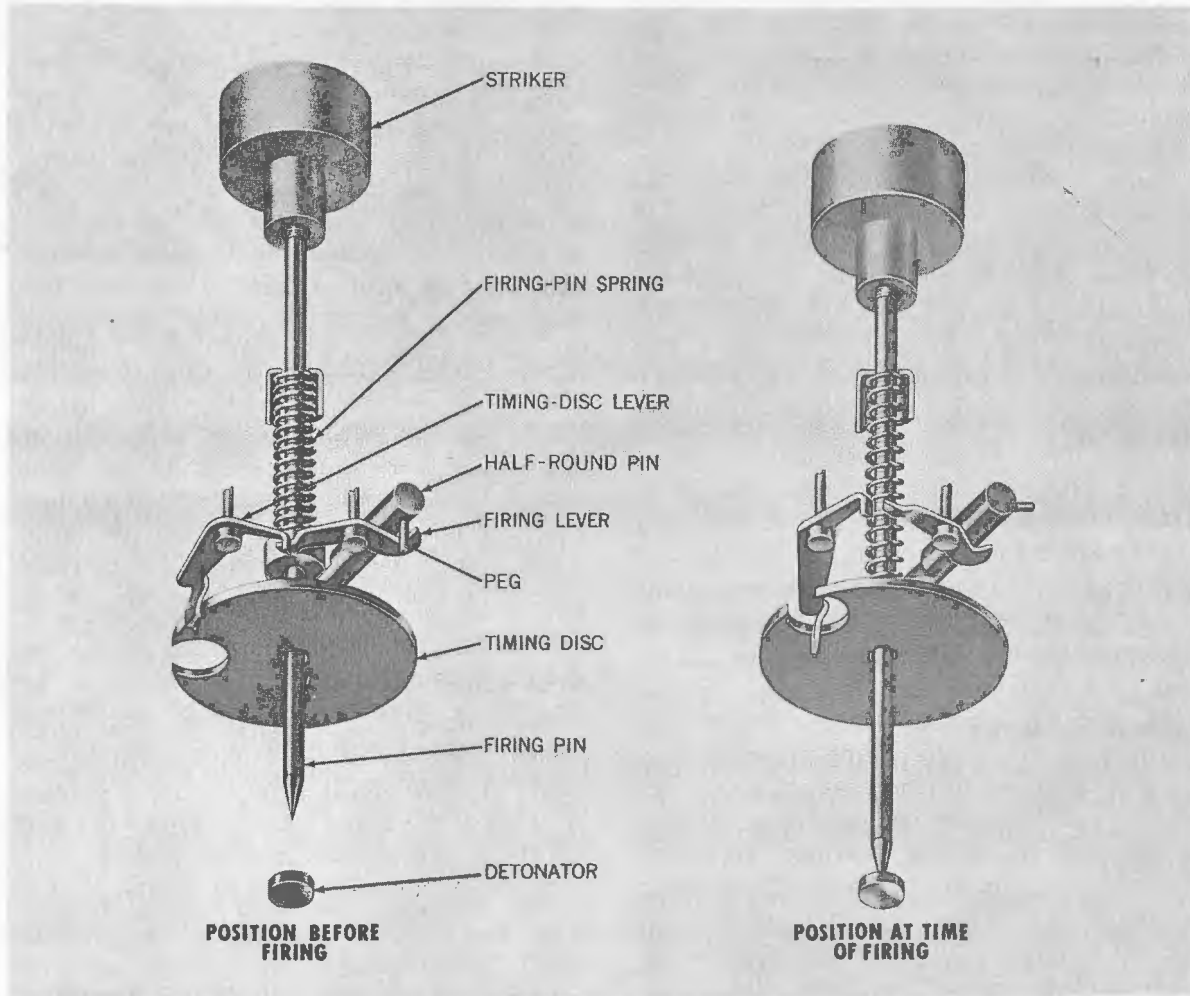

Figure 2-13.—Mechanical Time Fuze AN-M146A1, Details of Firing-Pin Operation.
**Action.** All mechanical time fuzes are essentially of one type. The principle of operation is that of the common alarm clock. A trigger arm assembly (firing lever and timing-disc lever), which restrains a spring-loaded firing-pin assembly, figure 2-13, rides on the edge of a circular timing disc. The disc has one notch cut into its edge which, in the unarmed condition, is occupied by the arming pin. The arming pin holds the timing disc in place against the action of the timing mechanism. When the arming pin is ejected upon withdrawal of the arming wire, the clockwork turns the timing disc at a uniform rate until the timing-disc lever drops into the notch and releases the firing lever. The firing lever pivots and releases a half-round pin, which had previously restrained the spring-loaded firing pin by contacting the firing pin collar. The collar had rested on one-half of the half-round pin, keeping the pin under a rotary force. Releasing the firing lever frees the half-round pin, which is forced to pivot by the spring-loaded firing pin. The firing pin is driven into the alined detonator.